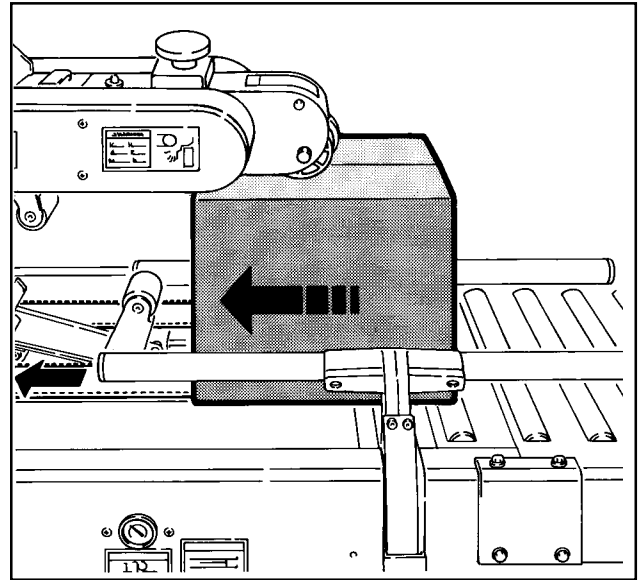

Figure 3-9 – Drive Belts
3. Once the box is pushed under the upper taping head, the upper drive assembly raising switch is released causing the upper drive assembly to descend onto the box top, as shown in Figure 3-9, allowing the drive belts to convey the box through the upper and lower taping heads for application of the tape seals.